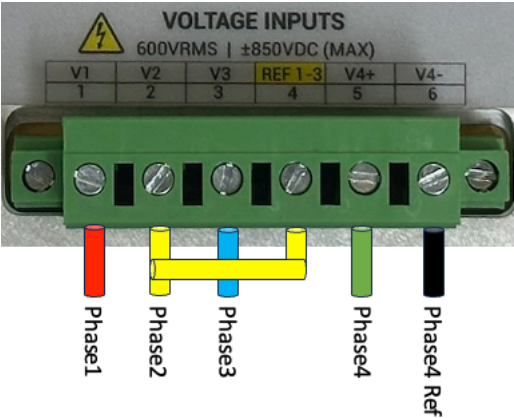

Figure 23: VECTO 3 3-wire Delta Voltage Connection Layout
- 1) Connect Phase 1,2 and 3 to Voltage Inputs 1-3 as shown in the Figure 23.